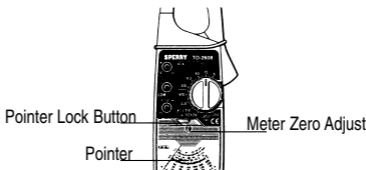

Fig. 1
- (1) To ensure greatest accuracy, the pointer should be set exactly to the zero position by rotating adjust screw (Fig. 1).
- (2) Make certain that the pointer lock button is in the open position (Fig. 1).